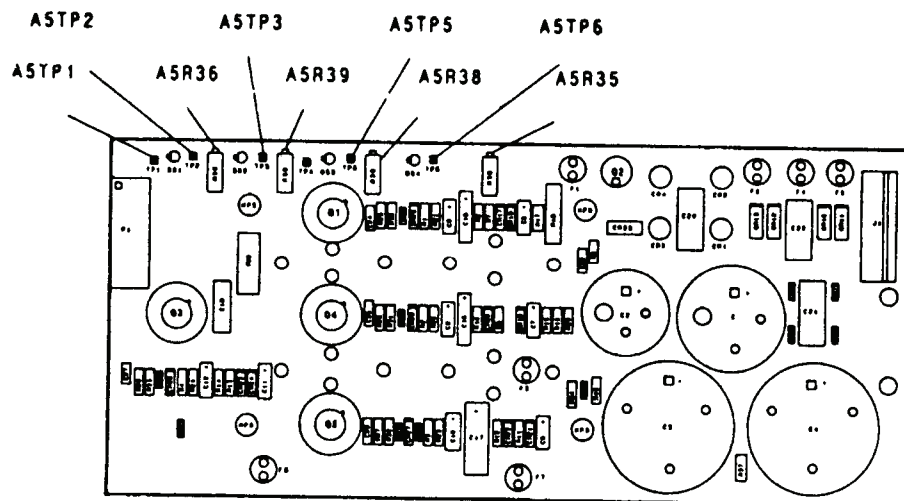

Figure 6. Power supply - adjustment locations.
- (1) Press TI **LINE** switch to off position.
- (2) Perform (a) through (c) below to remove top cover case from TI.
- (3) Press **LINE** switch to on position and allow TI to warm-up for 30 minutes.
- (4) Connect multimeter (dc mode) negative lead to A5TP1 (fig. 6) and positive lead to A5TP5 (fig. 6). If multimeter does not indicate between 4.999 and 5.001 V dc, perform **b** (1) below.
- (5) Connect multimeter positive lead to A5TP6 (fig. 6). If multimeter does not indicate between 7.999 and 8.001 V dc, perform **b** (2) below.
- (6) Connect multimeter positive lead to A5TP3 (fig. 6). If multimeter does not indicate between 14.999 and 15.001 V dc, perform **b** (3) below.
- (7) Connect multimeter positive lead to A5TP2 (fig. 6). If multimeter does not indicate between -14.999 and -15.001 V dc, perform **b** (4) below.
- (1) Adjust A5R38 (fig. 6) for a multimeter indication between 4.999 and 5.001 V dc (R).
- (2) Adjust A5R35 (fig. 6) for a multimeter indication between 7.999 and 8.001 V dc (R).
- (3) Adjust A5R39 (fig. 6) for a multimeter indication between 14.999 and 15.001 V dc (R).
- (4) Adjust A5R36 (fig. 6) for a multimeter indication between -14.999 and -15.001 V dc (R).